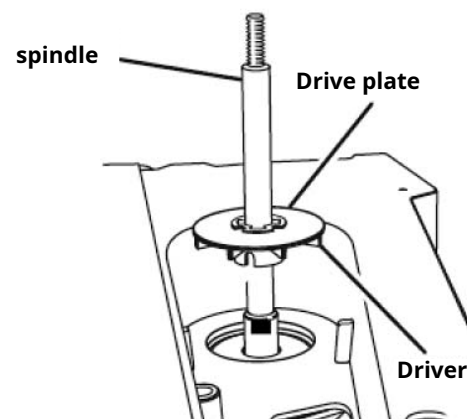

Fig. 5: Installing the drive plate
Step 2: Place the drive plate on the spindle (Fig. 5). Ensure that the drivers are facing downward. Carefully screw the drive plate downward until the drivers engage with the drive shaft.
(Fig. 5). Ensure that the drivers are facing downward. Carefully screw the drive plate downward until the drivers engage with the drive shaft.